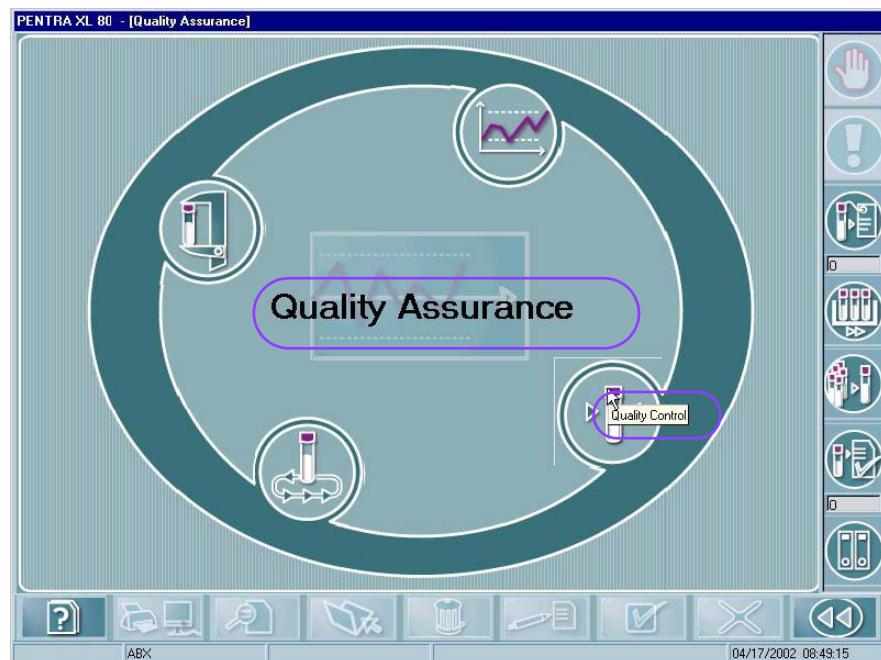

Fig. 1-11 Software arborescence and Hints
- ◆ Hints can be displayed by moving and holding the cursor on menus keys (see **Fig. 1-11**, page 1-18).